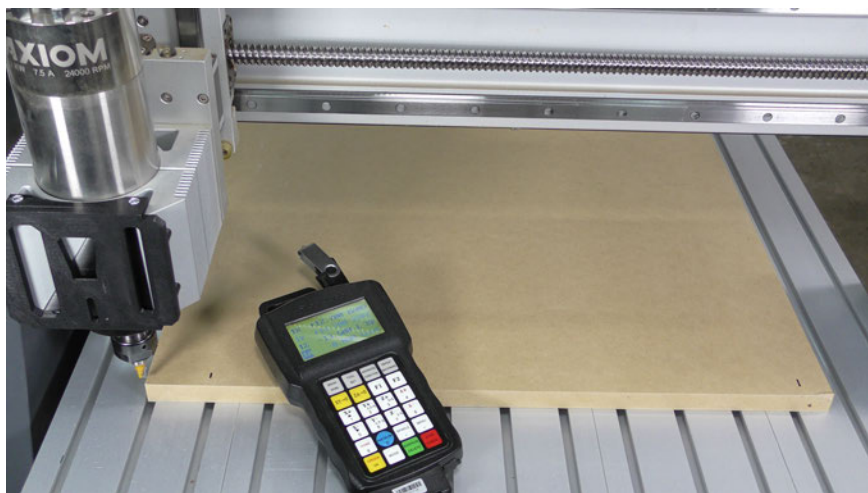

Fig 10b - Spoilboard Set
- 10.6.** Cut a piece of 3/4" (19mm) MDF to your spoilboard size and set it onto your machine bed so the front left corner is centered under the spindle and the board is as square to the machine bed as possible. (Fig 10b)